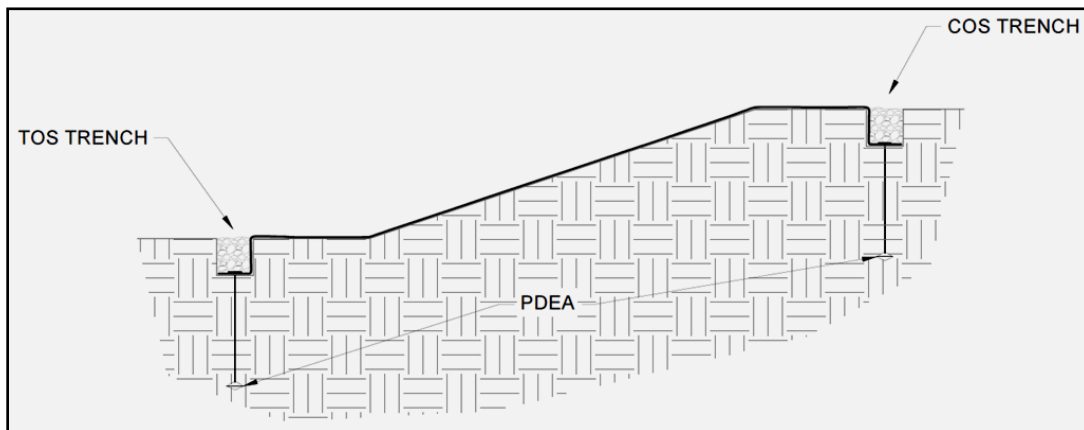

Figure 21: Crest of Slope (COS) Trench and Toe of Slope (TOS) Trench Complete
1. Begin the Pyramat Laydown process by starting with the downstream / downwind end of the site. To ensure proper anchoring of the overlapped areas the proceeding roll width must be laid out before the current roll width can be anchored with exception to the final roll width. For straight sections of a slope, Pyramat panel lengths should be long enough to construct COS and TOS trenches while also covering the surface of the slope being armored (Figure 21). Panel edges should rest approximately perpendicular to the slope center line. For best results, panels of Pyramat should be continuous and free from seams or roll end overlaps that are parallel to the centerline of the slope. Panel edge overlapping should follow a pattern of placing each proceeding panel's edge overtop the previous panel edge, shingling the panels in the direction of the water flow or prevailing wind.
7. Secure Pyramat with pins and PDEAs in the TOS trench. Suggested placement of pins and PDEAs for the TOS trench is along the bottom of the trench with pins on 12 in (300 mm) centers in between PDEAs on 4 ft (1.2 m) centers (Figure 21).
8. Backfill and compact the TOS trench. (Figure 21)